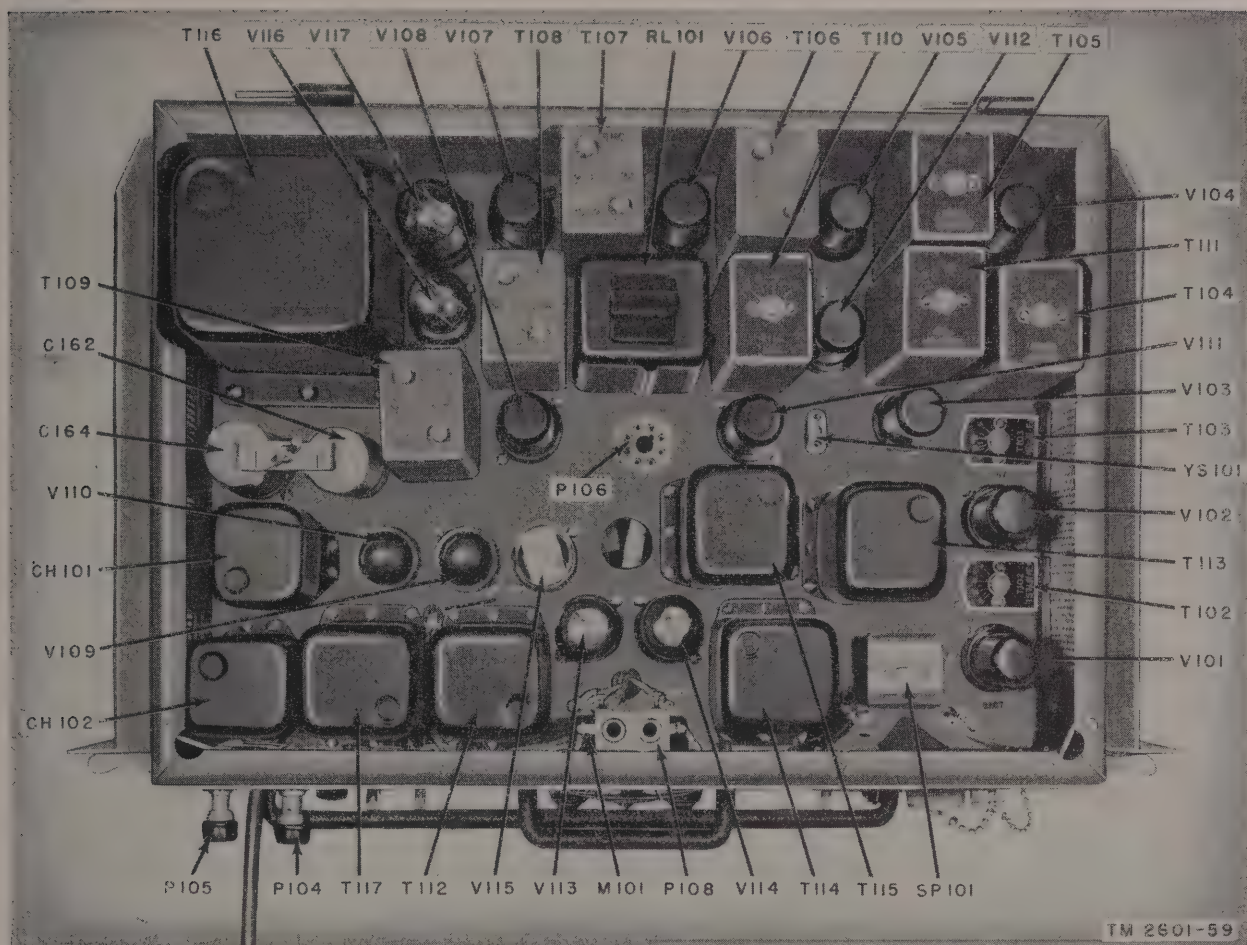

Figure 169. Radio Receiver R-19H/TRC-1 chassis, top view.
a. RECEIVER R-19(*)/TRC-1. Connect Signal Generator TS-497/URR as indicated in paragraph 243. Check that the tubes and filter capacitors are in place (fig. 169). Operate the receiver as indicated in the equipment performance checklist, performing steps 1 through 7, 16, and 19 through 25. Also listen for crackling or buzzing noises which indicate h-v arcing. Check for smoke and the odor of burned or overheated parts.